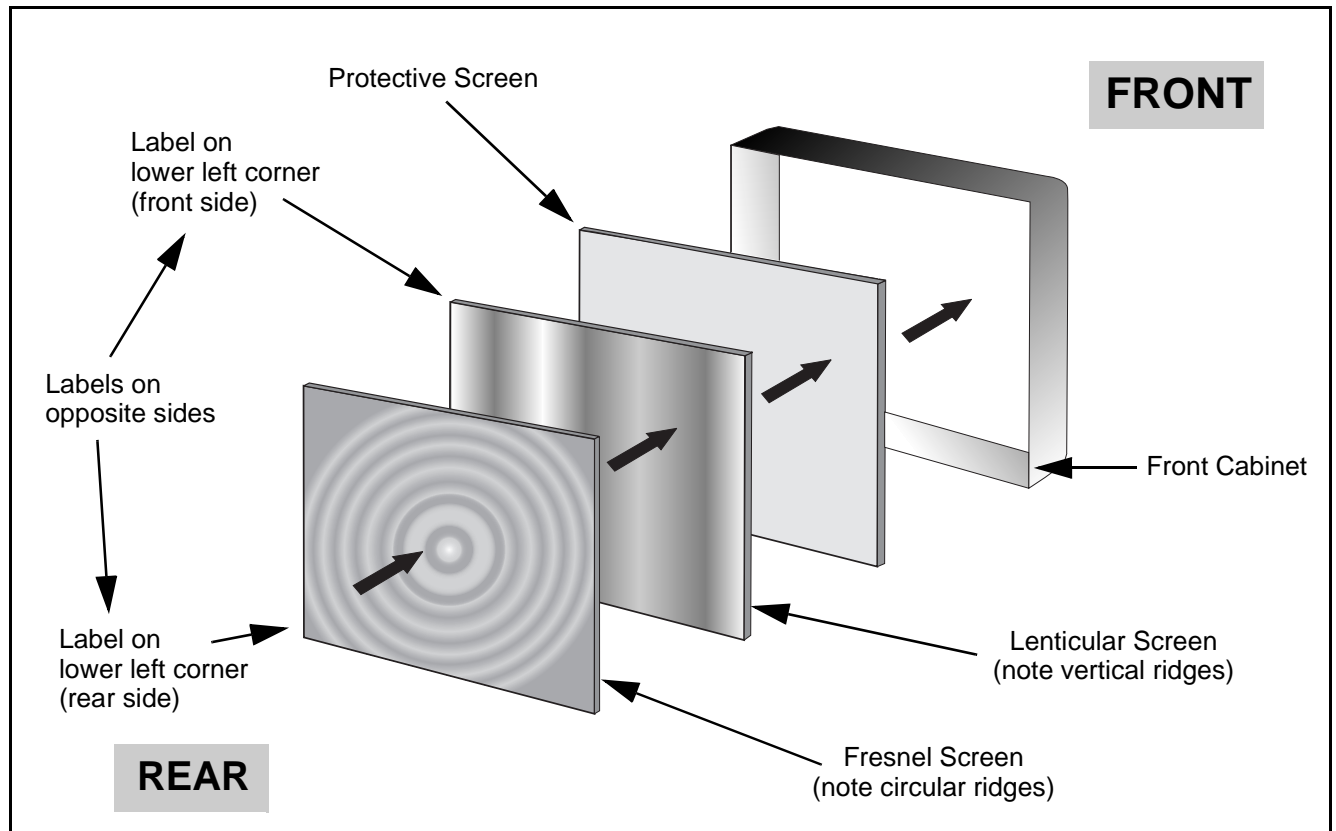

Figure 20. Screen Assemblies.
4. Note exact orientation of each screen. The orientation and order of the screens is critical for projecting pictures properly. Detailed screen assembly can be seen in Figure 20.